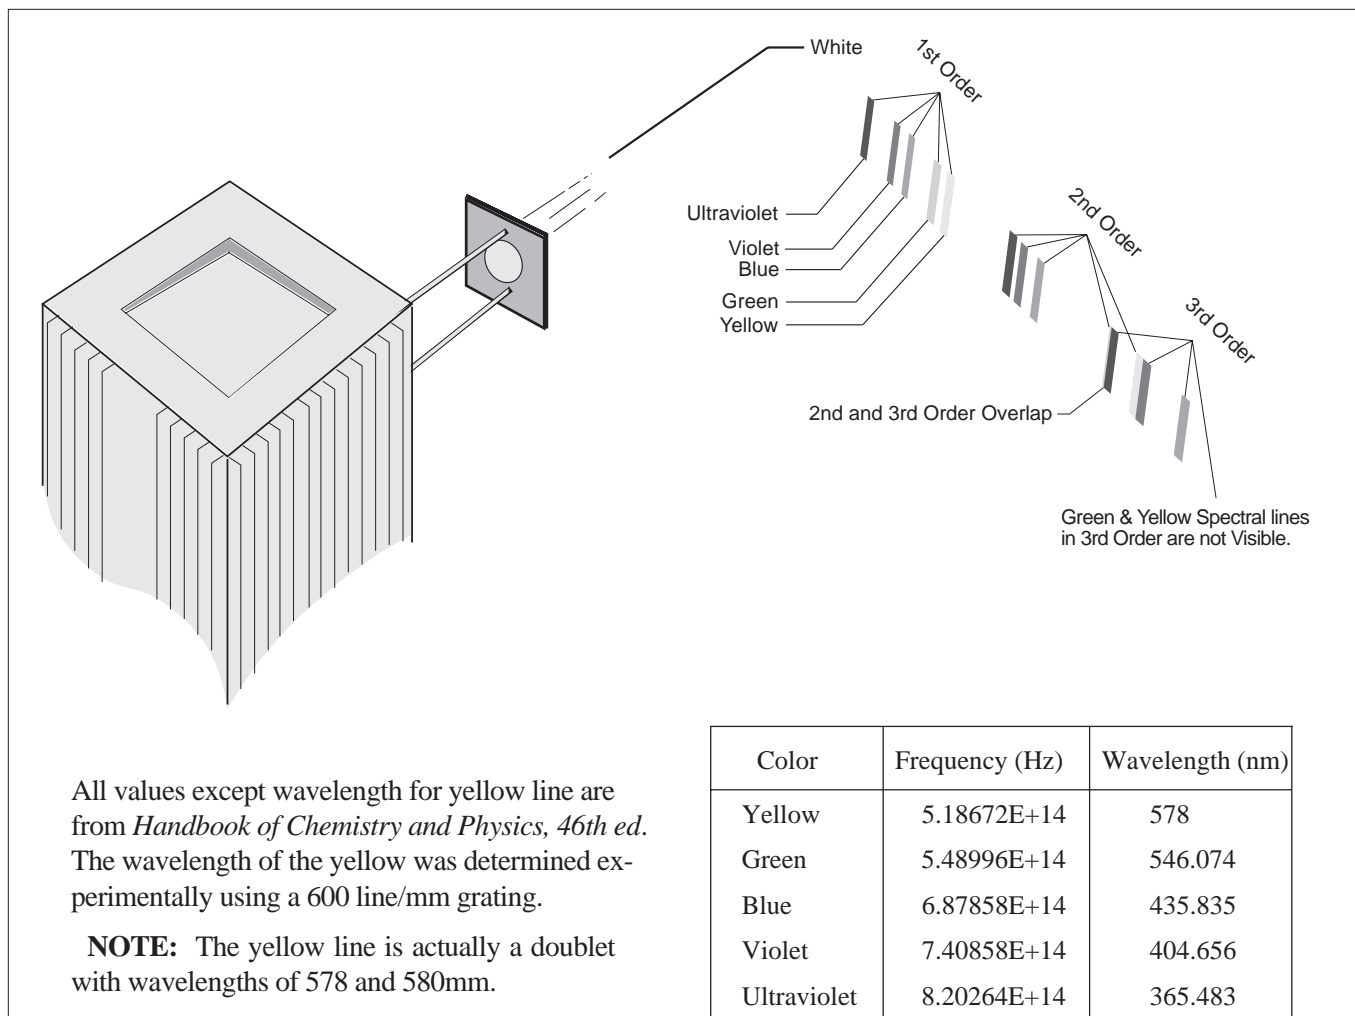

**Figure 9. h/e Light Shield**
- Set the h/e Apparatus directly in front of the Mercury Vapor Light Source. By sliding the Lens/Grating assembly back and forth on its support rods, focus the light onto the white reflective mask of the h/e Apparatus (Figure 9).